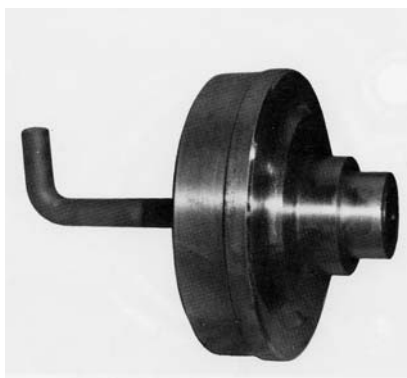

Figure 4-10 Cover plug with valve guide
2. Remove the cover plug with valve guide (Figure 4-10).
The discharge valve guide for White Star-1600 is bolted to the cover plug. (Figure 4-10).